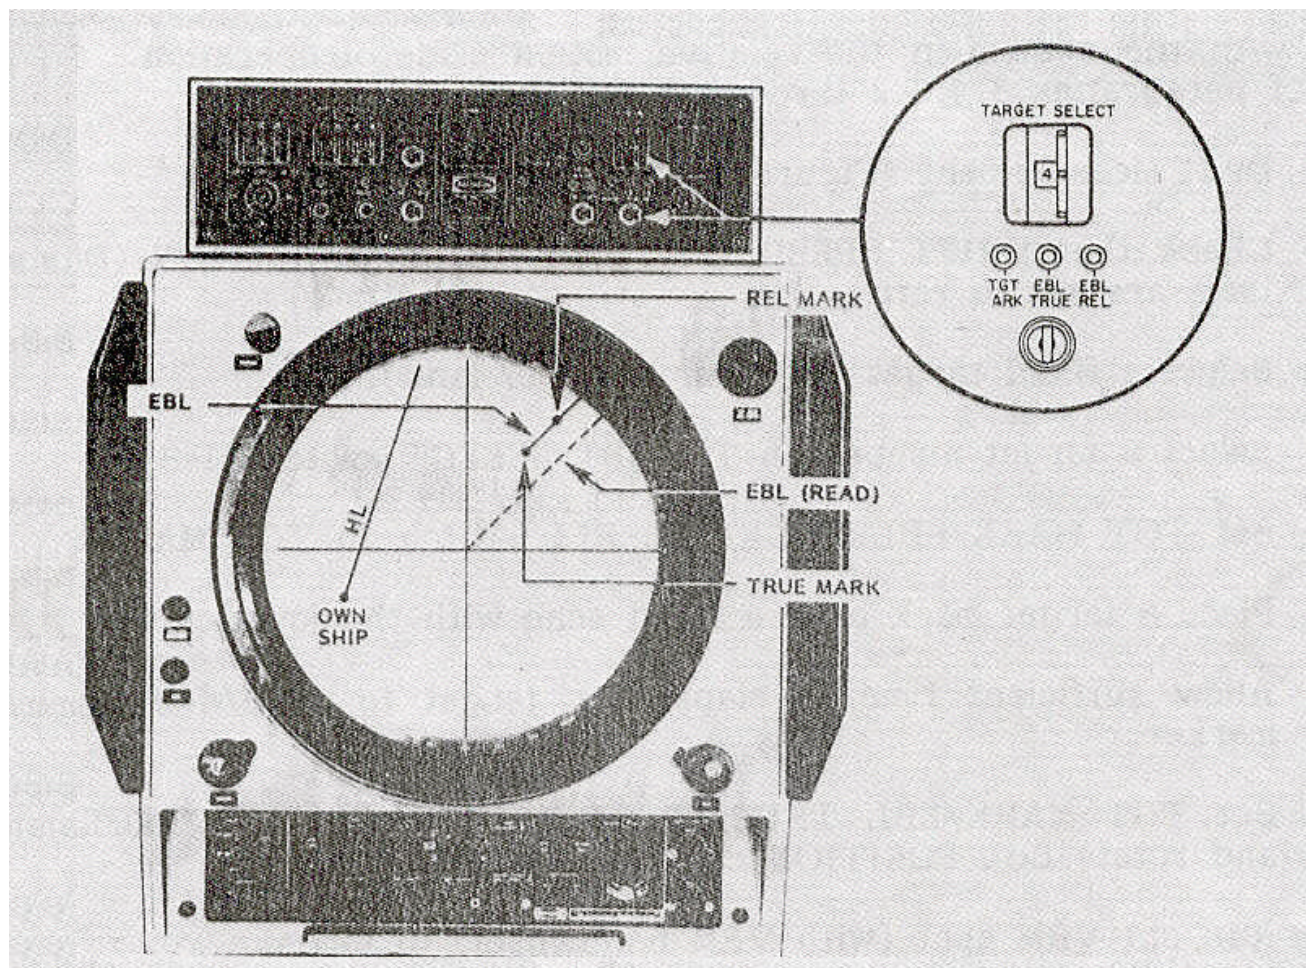

Figure 3-8 Drift Measurement
3.4.5 Drift Measurement (Figure 3-8)